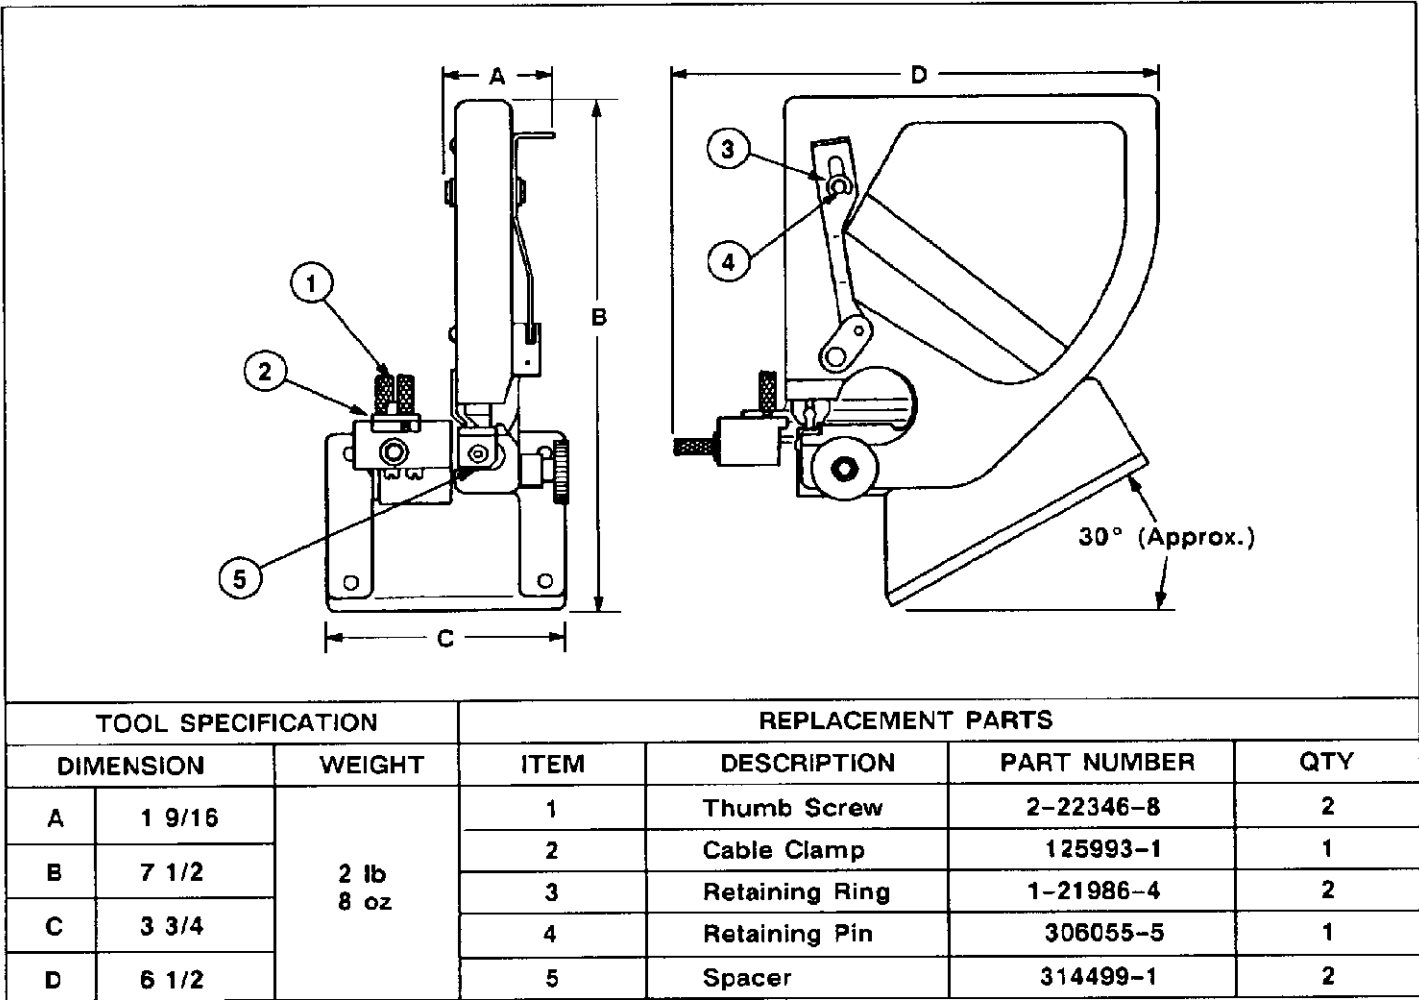

Fig. 8
2. Make certain the retaining pin, retaining rings, and thumb screws are in place. If replacements are necessary, refer to the parts list in Figure 8.
Replaceable parts are listed in Figure 8. A complete inventory should be stocked and controlled to prevent lost time when replacement of parts is necessary. When parts are needed, order by part number and description. Parts can be ordered from:
Parts other than those specified in Figure 8 must be replaced by AMP to ensure correct operation of the tool. When repair is necessary, return the tool with a written description of the problem to: